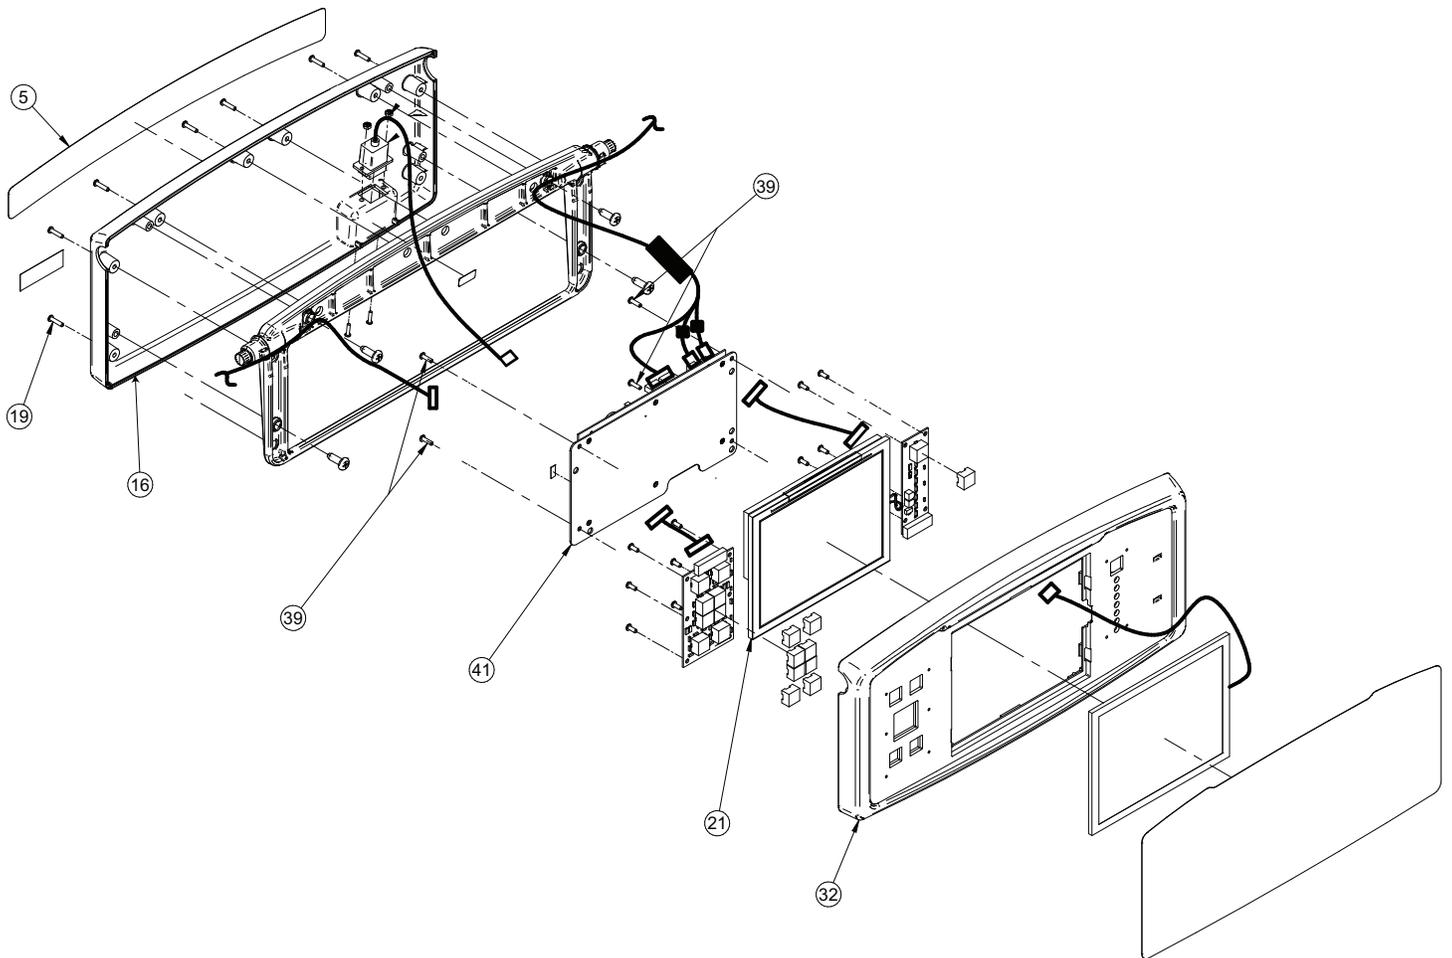

Figure 58 – Footboard assembly
3. Using a small slotted screwdriver, remove the fascia back foot control label (5) (Figure 58).
4. Using a #2 Phillips screwdriver, remove the six screws (19) that secure the front nurse panel (32) to the rear footboard control (16) (Figure 58). Save the screws.
6. Using a #2 Phillips short screwdriver, remove the two screws (19) from the bottom of the front nurse panel (32) (Figure 58). Save the screws.
17. Using a #2 Phillips screwdriver, remove the four screws (39) that secure the touch board assembly (41) to the display housing (Figure 58). Save the screws.
19. Using a small slotted screwdriver, separate the locking tabs from the LCD display (21). Remove and discard the display.